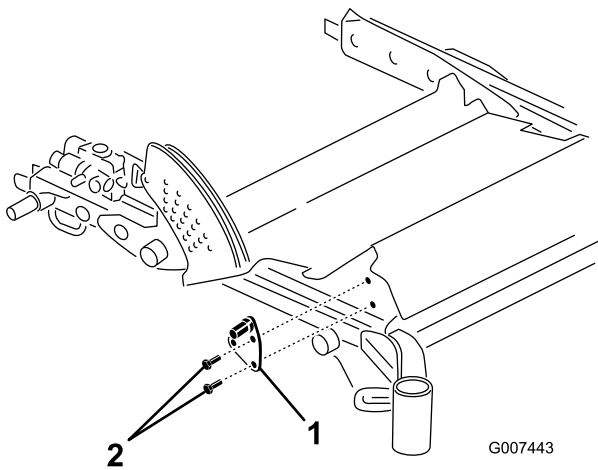

Figure 2
3. Mount the pedal shaft to the side of the carrier frame with two 3/8 inch self tapping screws. Position the pedal stop on the side of the carrier frame as shown in Figure 2